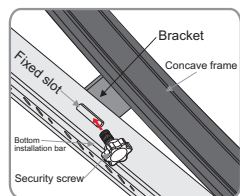

Figure 29
5. When the screen is installed on the installation bars, adjust the orientation of the screen to make sure the hole in the bracket is aimed at the fixed slot in the bottom installation bar. Fasten the security screw to the hole and fix the screen. ( Figure 29 - 30 )